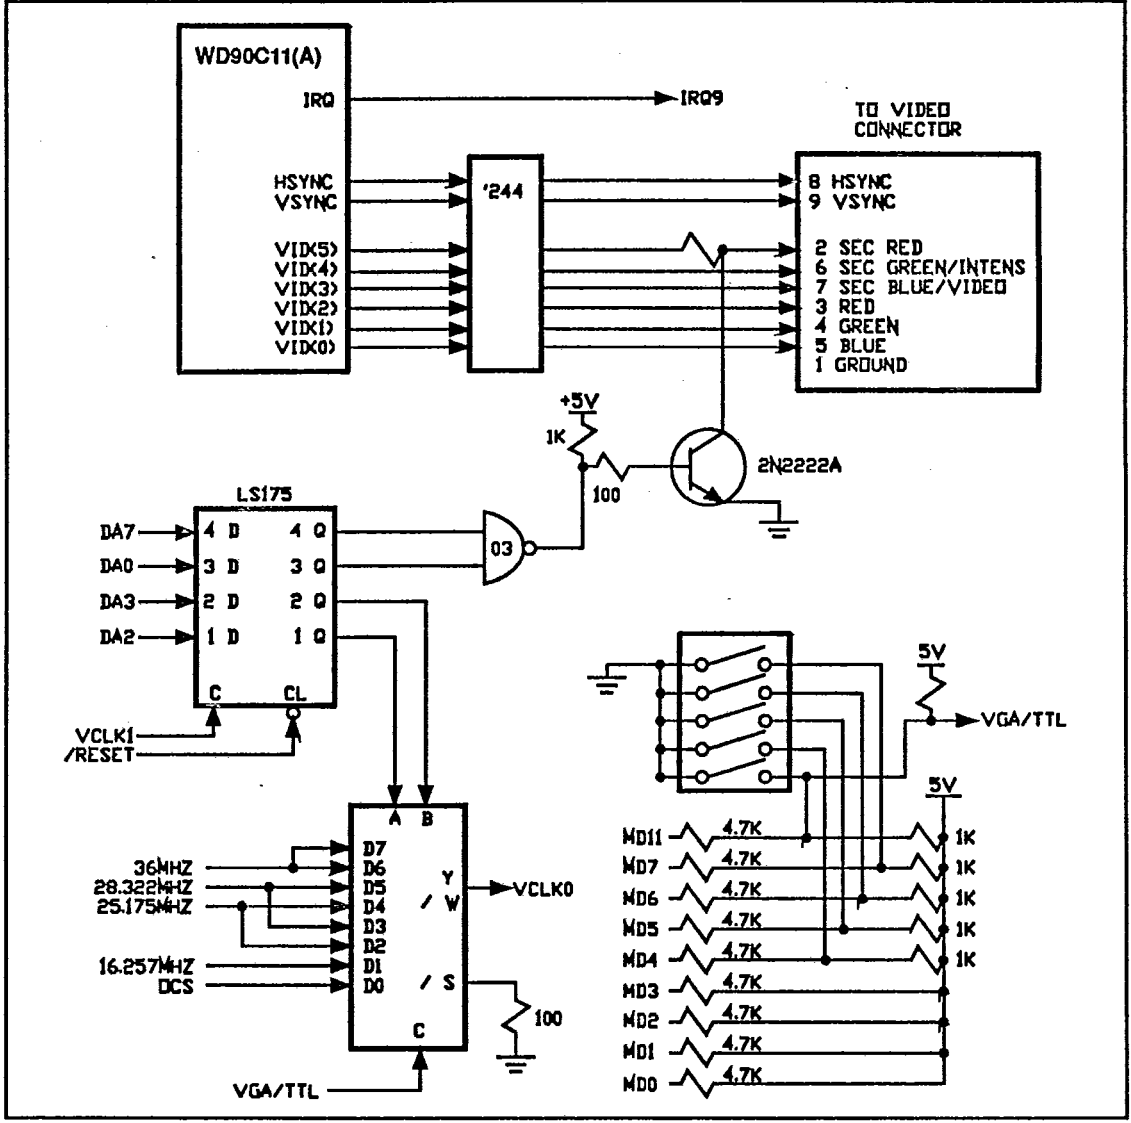

FIGURE A-8. WD90C11(A) AND TTL MONITOR CONNECTIONS
Figure A-8 illustrates the WD90C11(A) and TTL monitor connections.